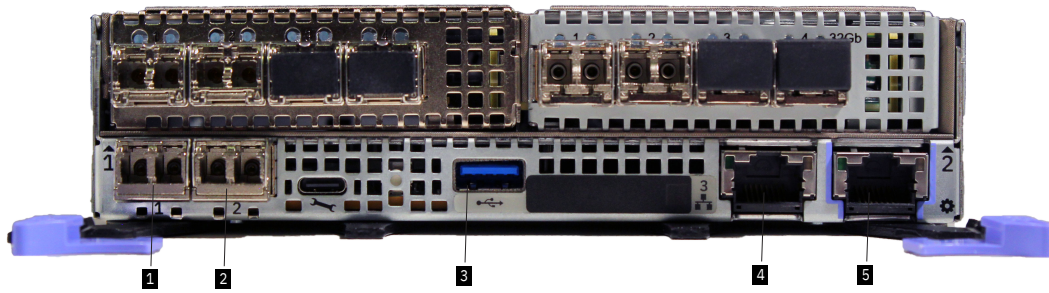

Figure 55. Technician port
4. Disconnect the personal computer from all networks. Connect an Ethernet cable between the port of the personal computer that is configured in step “2” on page 96 and the technician port in the left canister (1) that is shown in Figure 55 on page 97.